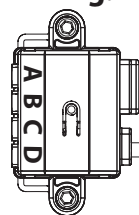

Fig. 3
4. Plug the 8-pin connector from the high-voltage power amplifier into the accessory port on the ESC (Fig. 3). The amplifier and lights will turn on when the ESC is powered on.